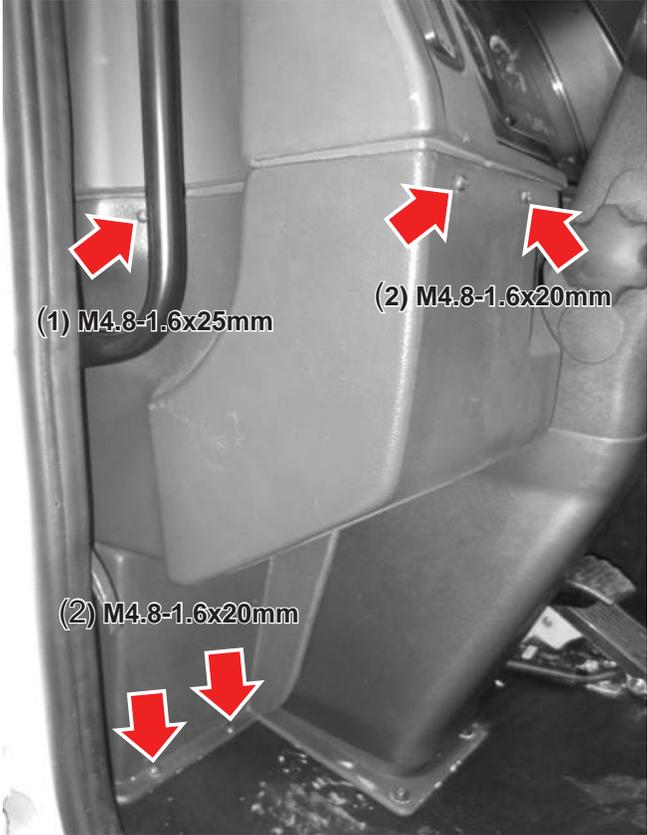

Figure 2-1
1. Remove the five sheet metal screws and set aside for reinstallation (see Figure 2-1).
2. Remove the trim panel and discard (see Figure 2-1).